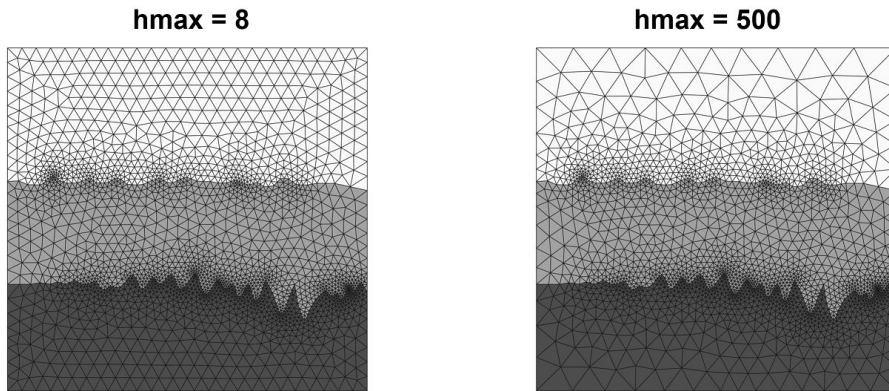

Figure 11: Effect of *Max Mesh-size*
- *Max Mesh-size*: Maximum mesh edge lengths. This is an approximate upper bound on the mesh edge lengths (Figure 11). Type: Float. Range: > 0.